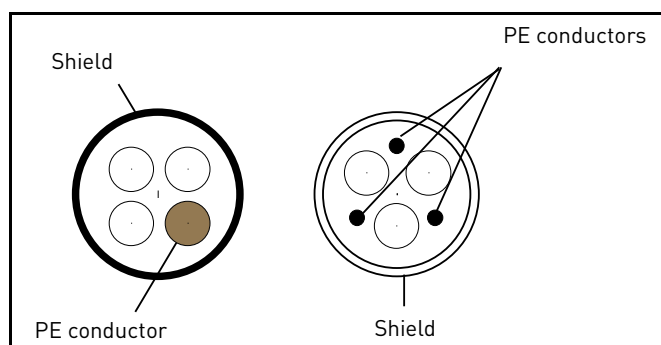

Figure 18.
- 2 = Symmetrical power cable equipped with concentric protection wire and intended for the specific mains voltage. (MCMK or similar recommended). See Figure 18.
- 3 = Symmetrical power cable equipped with compact low-impedance shield and intended for the specific mains voltage. [MCCMK, EMCCK or similar recommended; Recommended cable transfer impedance (1...30MHz) max. 100 mOhm/m]. See Figure 18.